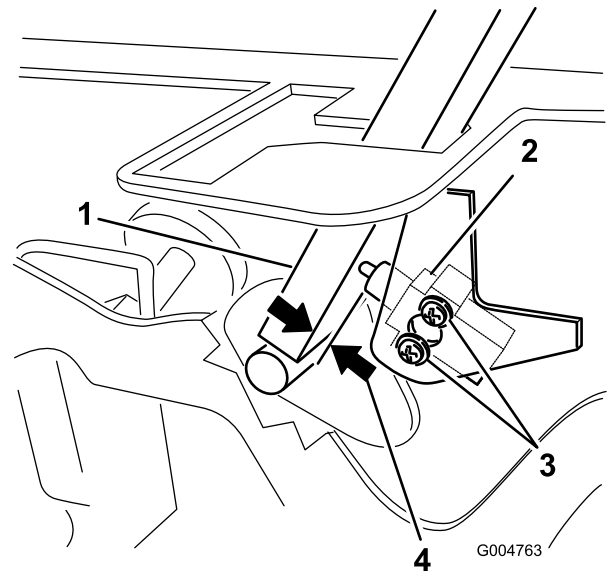

Figure 59
- Loosen the 2 screws securing the interlock switch (Figure 59).
4. Holding the control lever against the frame, move the switch toward the lever until the distance between lever and switch body is 0.015 to 0.045 inch (0.4 to 1 mm) (Figure 59).